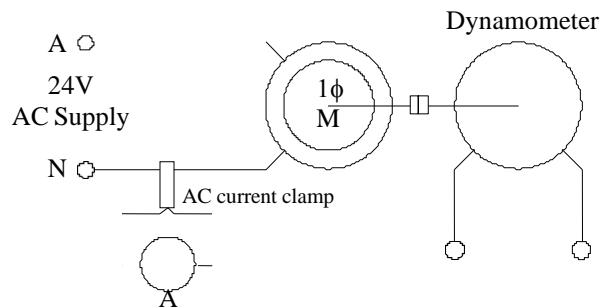

Figure 4
1. Connect the shaded pole motor directly to 24 volts AC supply as in figure 4.